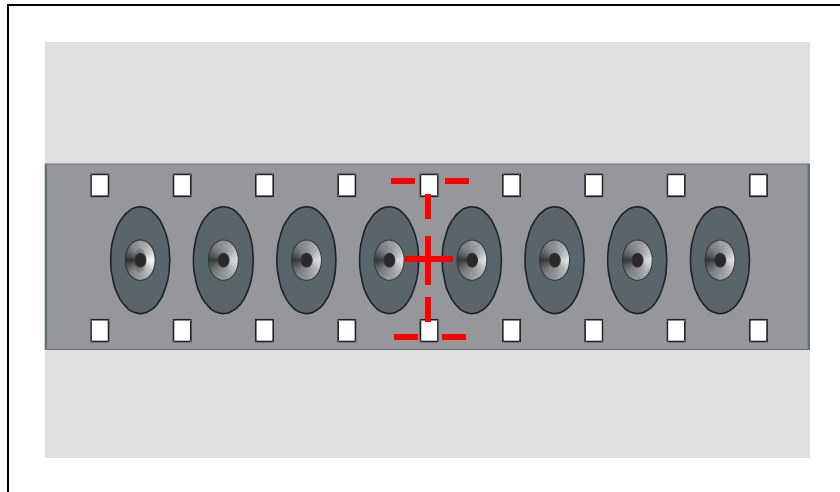
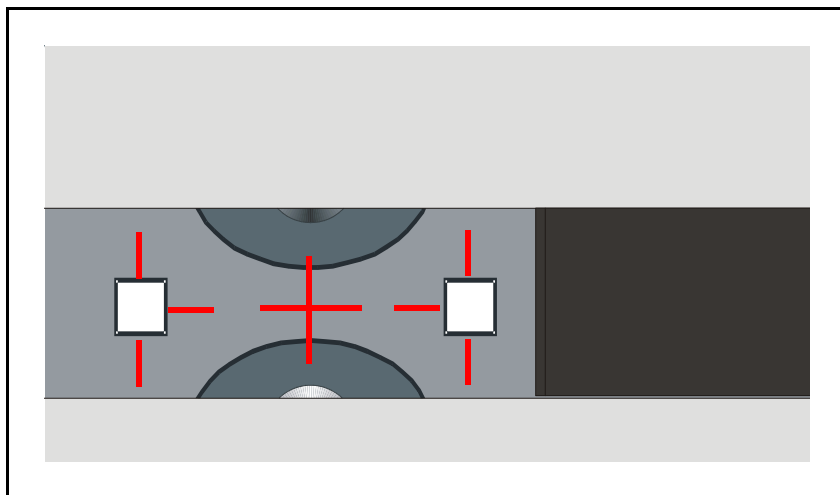

Figure 6-7. HVC view
Figure 6-8. LSC view
Figure 6-7 shows the camera view when the HYDRA Vision Camera (HVC) is used. Figure 6-8 shows the camera view when the LineScan Camera (LSC) is used.
3. Check the alignment of the reference background by verifying that, the two small red crosses are positioned in the middle of the white reference points on both ends of the reference background. If necessary, the reference point background can be adjusted mechanically in horizontal (Y) and/or theta direction as described in points 4 - 7 below.
5. Adjust the reference point background in horizontal (Y) and/or theta direction with the two (0.9 mm) set screws, situated against the HYDRA chassis, perpendicular against the tools.
6. Adjust the reference background until the two small red crosses are positioned in the middle of the white reference points (See Figure 6-7 and 6-8) at both ends of the reference background.